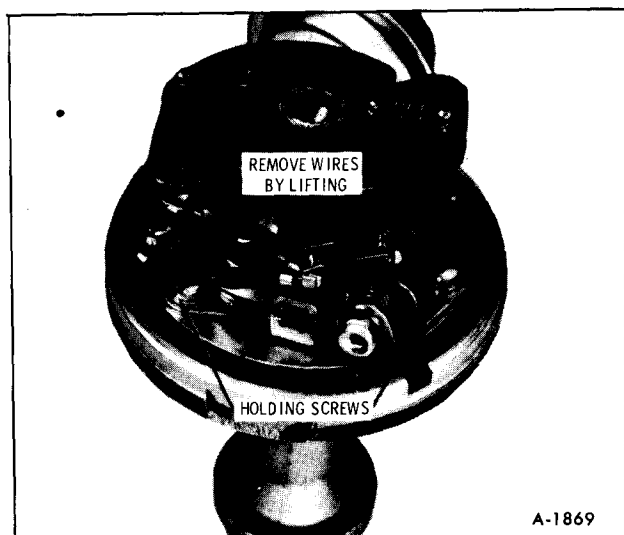

Figure 37—Removing Contact Points
3. Lift the two wiring terminals out of the snap-lock retainer, Figure 37, and remove the two screws and contact points.